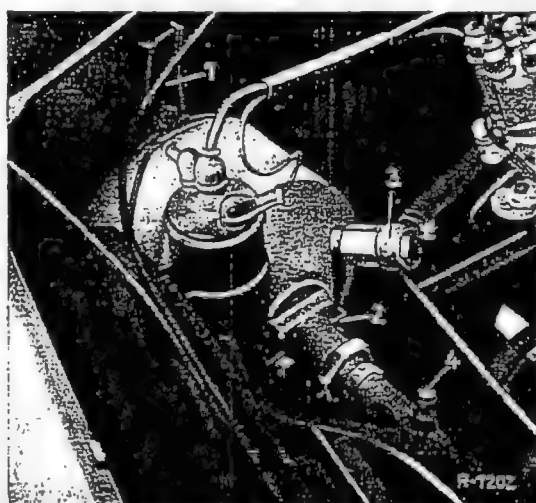

Fig. 42-14/4
2. Unscrew the power brake at the bracket (4) on the chassis base panel and the bracket (2) at the reinforcement plate and remove (Fig. 42-14/3).
Note: As a result of installing the disk brake in Models 220 Sb and 220 SEb and the consequent changeover to power brake T 50/26, the bracket (2) on the chassis had to be moved backward since power brake T 50/26 has a longer vacuum cylinder than power brake T 50/24/1. When power brake T 50/24/1 is installed in Model 220 b, a spacer sleeve has to be added between the bracket on the power brake and the bracket (1) on the reinforcement plate (Fig. 42-14/4).